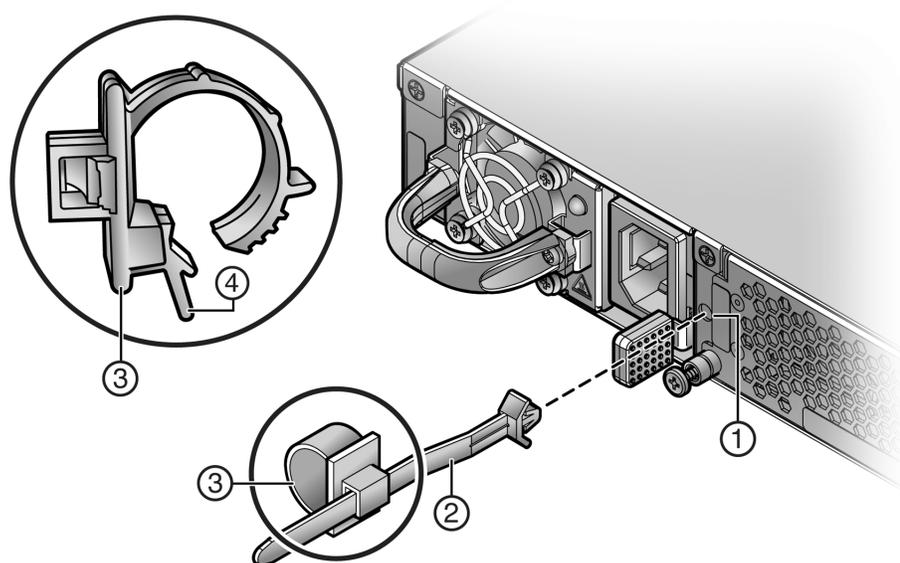

Figure 12: Installing the Power Cord Clip Assembly in the Power Supply
- 1 Holding the strap piece with the rough side facing away from the power supply, shown by callout 2 of Figure 12: Installing the Power Cord Clip Assembly in the Power Supply on page 28, insert the strap piece into the hole to the right of the power cord receptacle, shown by callout 1.